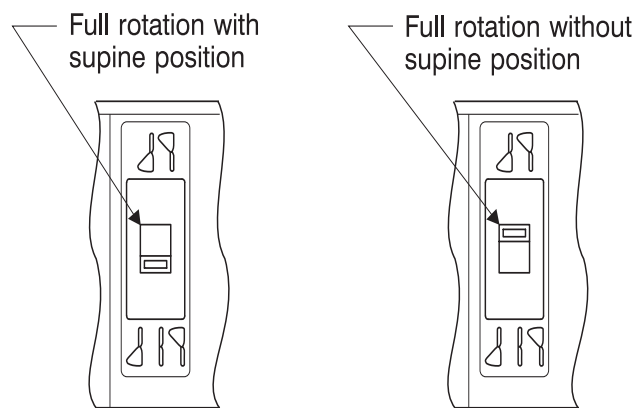

Figure 9—SKIP SUPINE switch
- If supine position is not desired during full rotation, set the SKIP SUPINE switch (see figure 9) located on the side of the unit. Placing the switch in the upper position skips the supine position when rotating the patient.